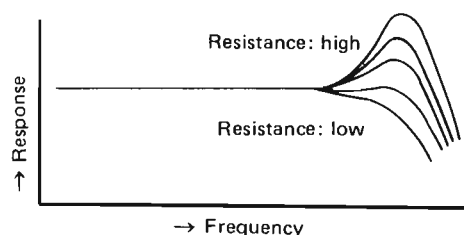
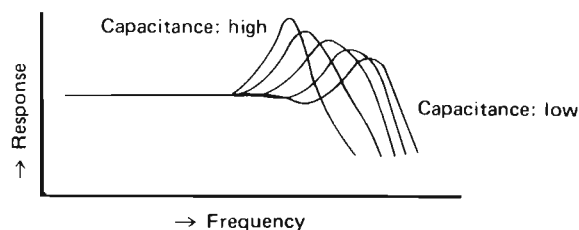

Fig. 9
Fig. 10
Typical moving magnet (MM) cartridges have resonance peaks at high frequencies, as shown in Fig. 9). However, the height of the peaks can be varied by changing the load resistance (ohms). The peaks increase as the resistance is increased. In addition, the resonance frequency (center of the peak frequency) can be varied by changing the load capacitance (pF), as shown in Fig. 10. If the capacitance is increased, then the resonance frequency is lowered and the peaks are increased. To provide the best characteristics of your cartridge, set the "pF" and "ohms" switches, following the instructions outlined below. By combining these two knobs, you will be able to obtain a variety of different high-frequency responses.
The example in Fig. 10. shows typical high-end frequency curves. In a case like this, adjust both switches for the desired response while listening to a record. With ordinary MM cartridges, the values are 50 kilohms and 100pF ~ 200pF.